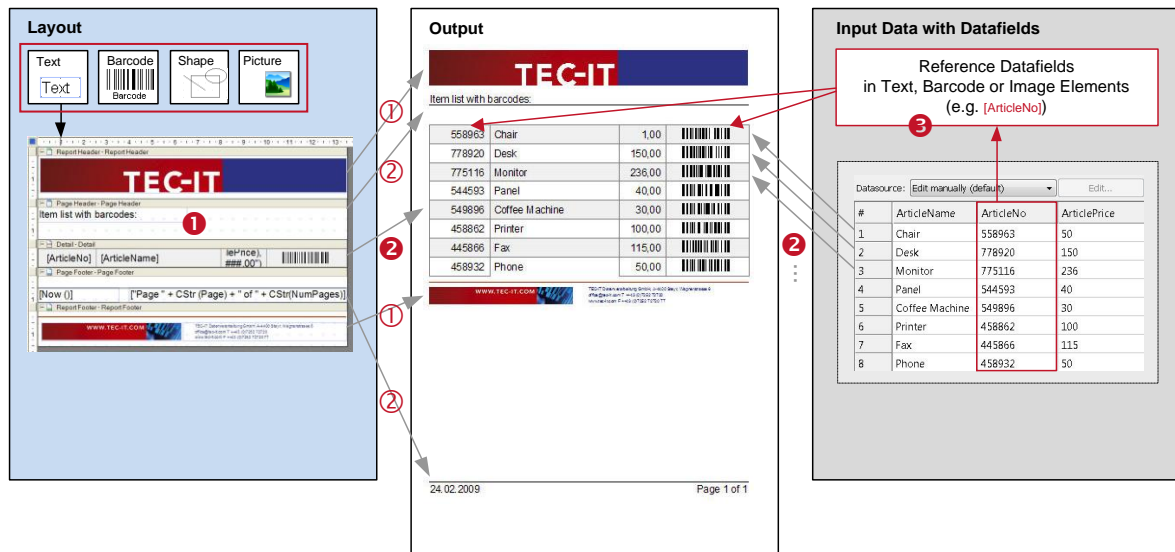

Figure 13: Rendering the Layout
Each print-out is based on the form layout. The form layout uses different design elements like text elements, barcode elements, shapes and pictures which are placed on bands (see Figure 13, ❶).
When generating the output, each of the bands will be rendered repeatedly: Usually a *detail band* is rendered for each single record (see Figure 13, ❷) of the datasource. *Page header* and *page footer* are rendered at the top respectively bottom of each page automatically (see Figure 13, ❷). The
report header and the report footer are printed at the beginning and at the end of the report (see Figure 13, ①). In this way the output is assembled.
For providing the content you have various possibilities: Text, barcode and image elements can be filled with fixed data. Aside from that they can also reference the fields in a datasource. Such references will be resolved during print time and the actual data is inserted (see Figure 13, ③). However, not only the fields in the datasource may be used to provide dynamic data. **TFORMer** also provides system fields (e.g., the current page number) and functions (e.g., the current date), and you can perform your own arbitrary computations. Besides that, you can easily create your own serial numbers and use them in the layout.